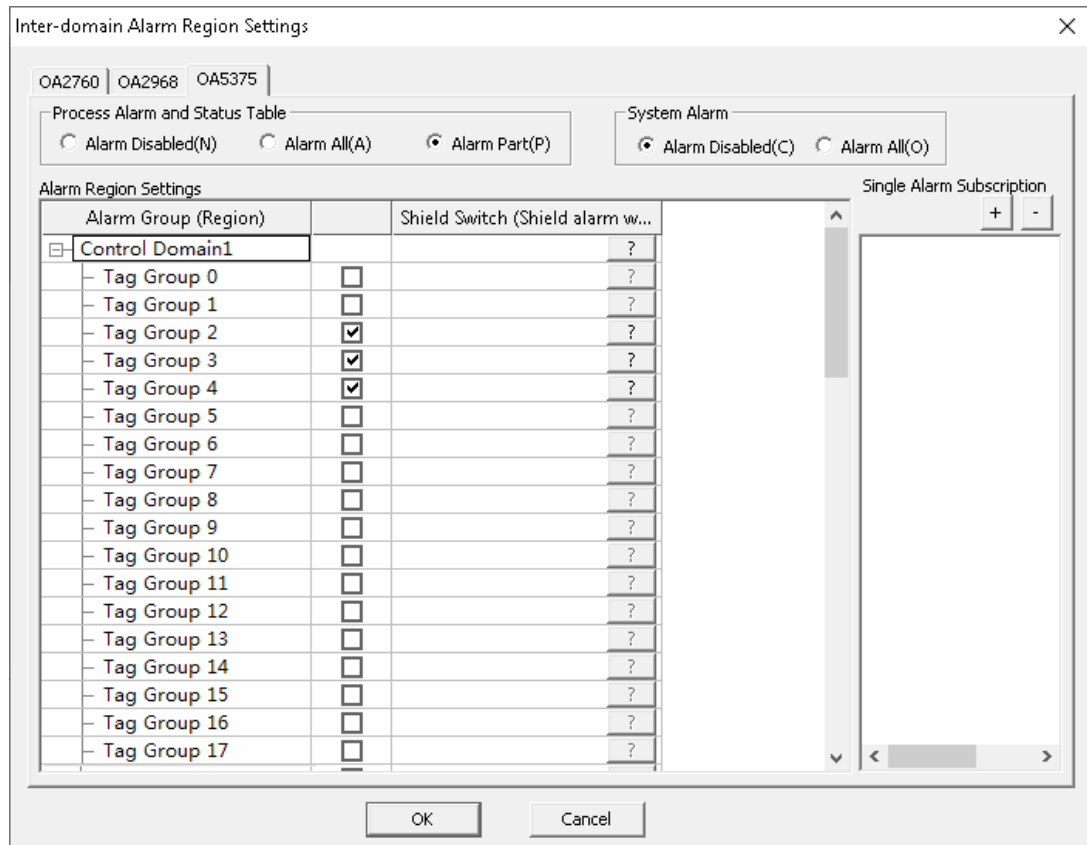

Figure 4-42 Region settings of Inter-domain alarm
- Double-click “Inter-domain Settings” and the interface pops up shown in Figure 4-42.